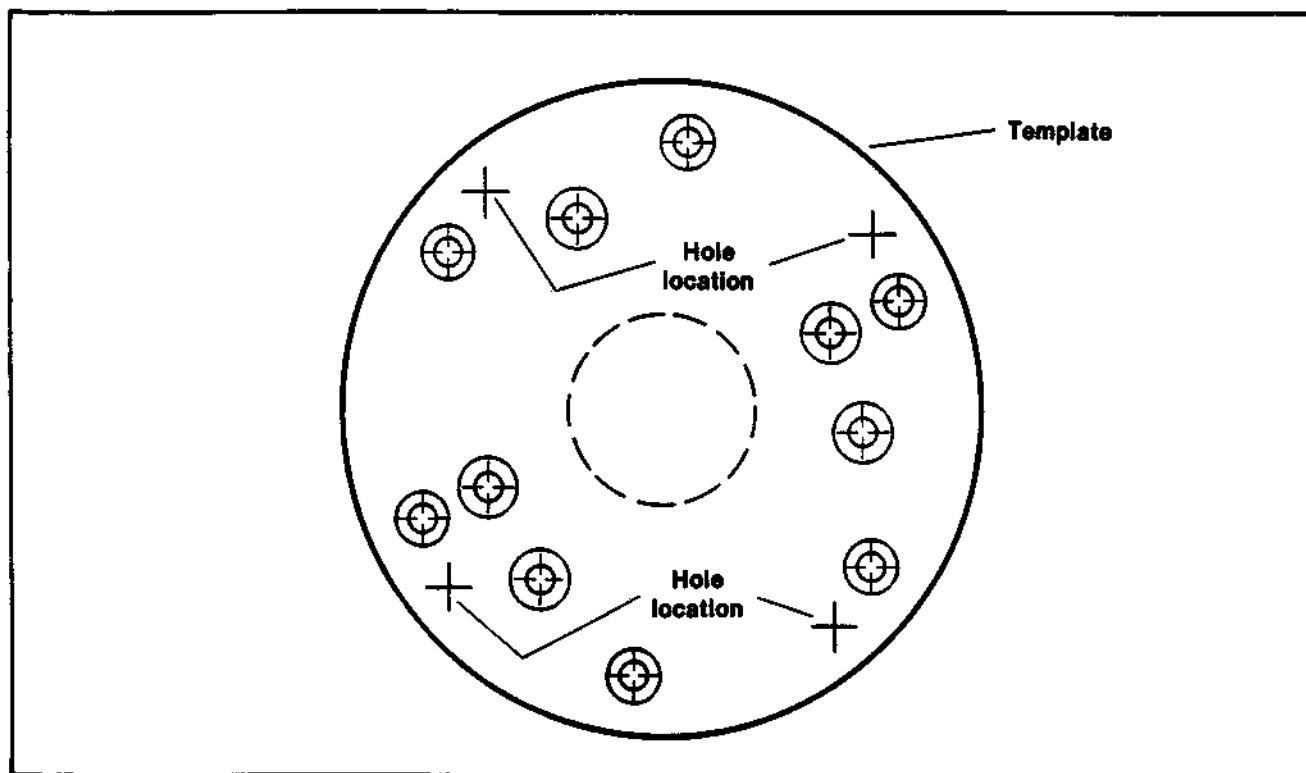

Figure 1. Puller Plate Hole Template
1. Cut out the template in Figure 1.